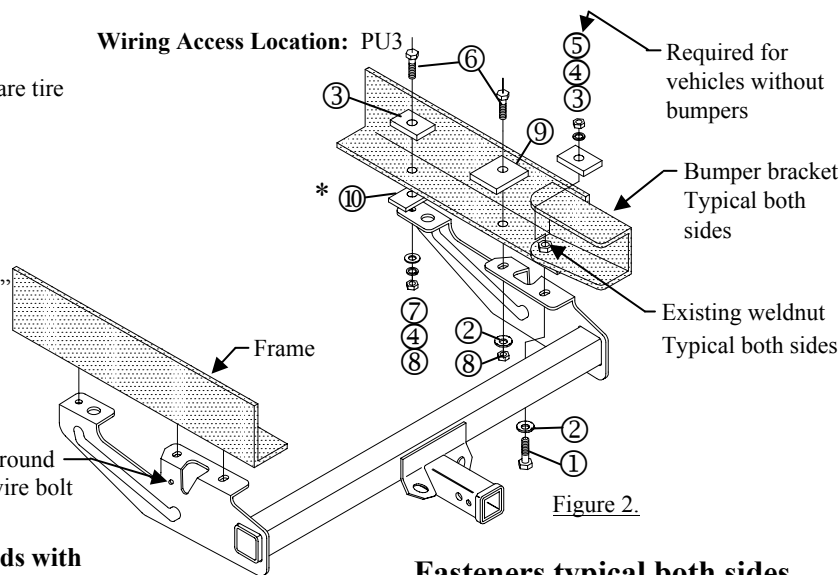

Figure 2.
6. Install remaining fasteners as shown in Figure 2.